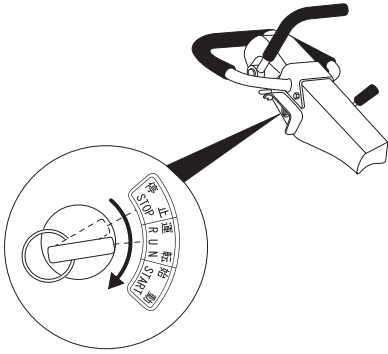

Figure 55. Ignition Switch (RUN)
- Turn the key **clockwise** to the **RUN** position (Figure 55). The buzzer will begin to sound.